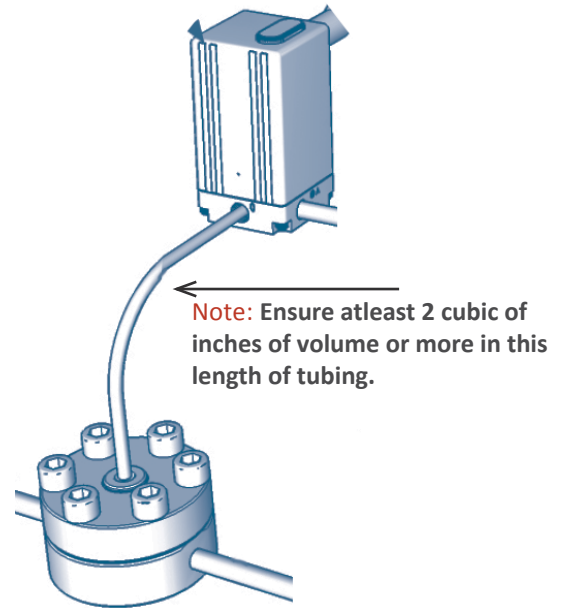

Fig. 1 QBS Electronic Pressure Regulator connected to an Equilibar back pressure regulator providing pilot setpoint pressure.
5. **NOTE:** Too small of a volume connected to the outlet 'O' port may cause the QBS to be unstable and oscillate. A 'motorboat' sound will be heard continuously as the exhaust solenoid intermittently vents compressed gas out the exhaust 'E' port. A length of tubing providing 2 cubic inches of volume or more is recommended on the QBS outlet port to prevent instability. See figure 1.